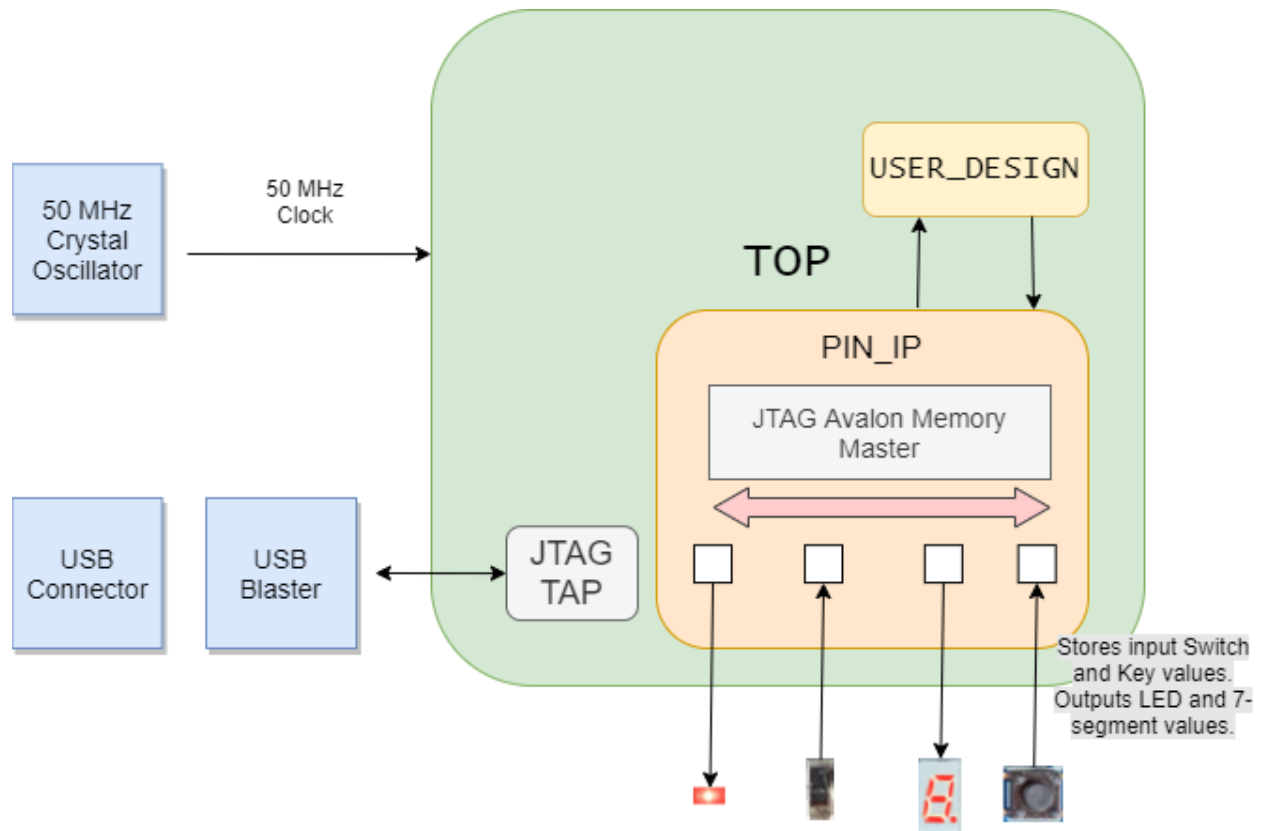

Figure 6: Remote Board Functionality Diagram
switches and LEDs used in the circuit. Because our board is working remote, the pins have already been assigned for you. To understand the process, refer to the diagram on Figure 6 below.
- As seen in Figure 6, at the **Top** level the only pin that goes to the FPGA is the clock. This signal is synchronization signal for the overall design. This input at the **Top** level is necessary because the complex module that handles communication wirelessly requires a clock.